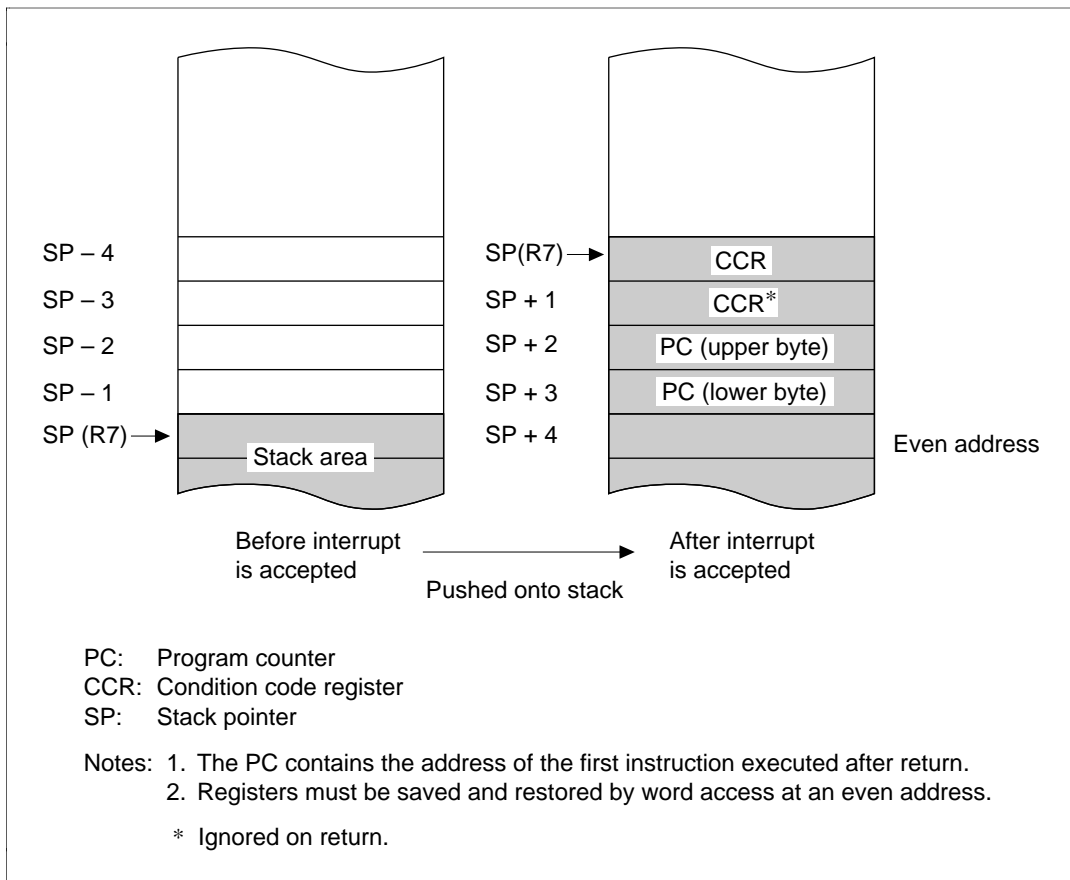

Figure 4-6 Usage of Stack in Interrupt Handling
- (1) An interrupt request is sent to the interrupt controller when an NMI interrupt occurs, and when an interrupt occurs on an IRQ input line or in an on-chip supporting module provided the enable bit of that interrupt is set to 1.
- (2) The interrupt controller checks the I bit in CCR and accepts the interrupt request if the I bit is cleared to 0. If the I bit is set to 1 only NMI requests are accepted; other interrupt requests remain pending.
- (3) Among all accepted interrupt requests, the interrupt controller selects the request with the highest priority and passes it to the CPU. Other interrupt requests remain pending.
- (4) When it receives the interrupt request, the CPU waits until completion of the current instruction or hardware exception-handling sequence, then starts the hardware exception-handling sequence for the interrupt and latches the interrupt vector number.
- (5) In the hardware exception-handling sequence, the CPU first pushes the PC and CCR onto the stack. See figure 4-6. The stacked PC indicates the address of the first instruction that will be executed on return from the software interrupt-handling routine.
- (6) Next the I bit in CCR is set to 1, masking all further interrupts except NMI.
- (7) The vector address corresponding to the vector number is generated, the vector table entry at this vector address is loaded into the program counter, and execution branches to the software interrupt-handling routine at the address indicated by that entry.